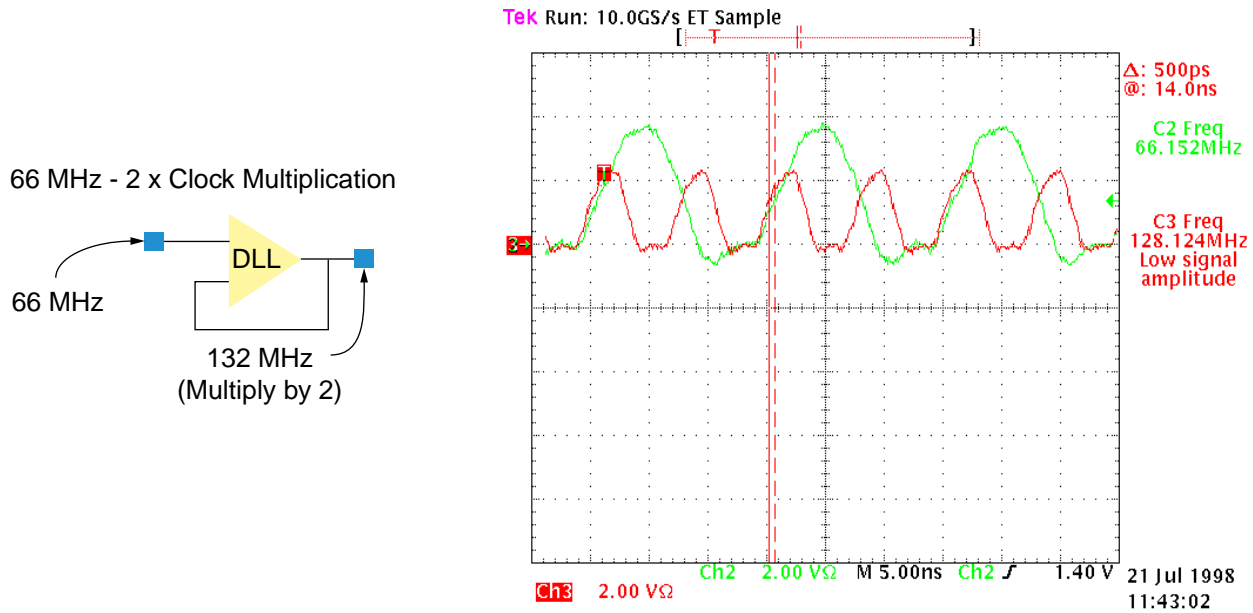

Figure 3: Clock Multiplication
- 2X-4X: Double or quadruple the incoming clock frequency, supporting designs that need a fast internal operation but a slower external clock. This gives the designer a number of choices. For example, clocks routed on the board can be kept to lower frequencies thus avoiding signal-to-noise issues while the FPGA runs at maximum speed at the same time. All multiplied clocks have synchronized edges. Internal device clock speeds can be high as 320 MHz. Figure 3 shows a 2X clock multiplication example.